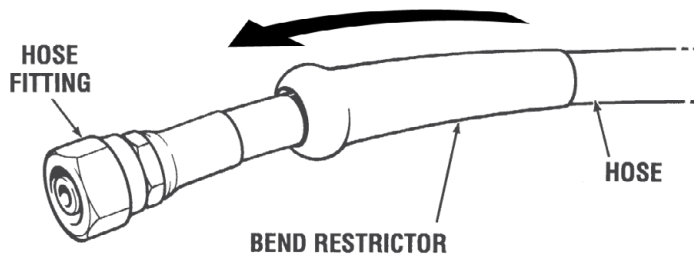

Figure 5-22.
4. Feed the hoses from the outside of the boat through the splashwell/bulkhead. Note that the bend restrictor (see figure 5-22) must be at the cylinder end of the hose.
6. Attach the hydraulic hoses to the SmartCylinder and slide the bend restrictor over the fitting as shown in figure 5-22. Torque fitting to 15 ft-lb. (20 Nm). If necessary, you can reposition the fitting on the cylinder. See section 5.5.3.
2. Feed the hoses from the outside of the boat through the splashwell/bulkhead. Note that the bend restrictor (see figure 5-22) must be at the cylinder end of the hose.
3. Attach the hydraulic hoses to the SmartCylinder and slide the bend restrictor over the fitting as shown in figure 5-22. Torque fitting to 15 ft-lb. (20 Nm). If necessary, you can reposition the fitting on the cylinder. See section 5.5.3.